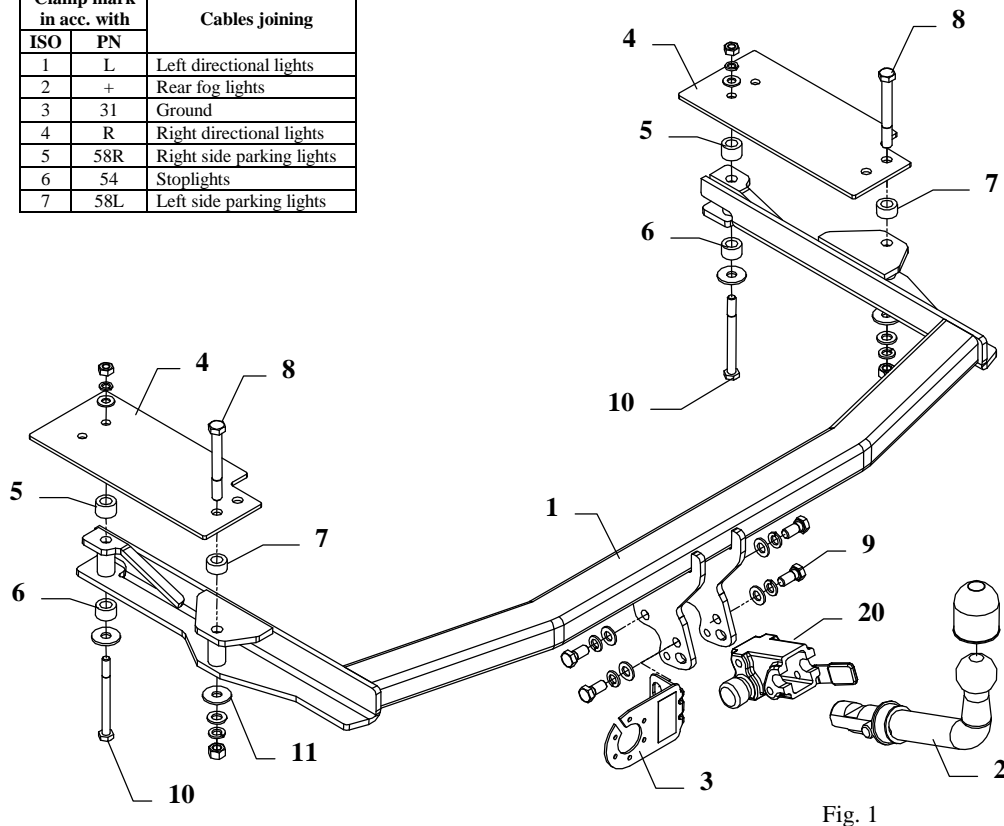
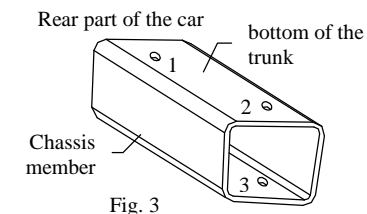

Fig. 1
Fig. 3
3. Factory made holes in members 1, 2, 3 boring with drill $\varnothing 25\text{mm}$ as shown on the fig. 3.
4. Put main bar of the towbar (pos. 1) in chassis members according to the holes in both elements.
5. In drilled holes $\varnothing 25\text{mm}$ put sleeves as shown on the fig. 1.
6. Place fish-plates (pos. 4) and screw it as shown at the fig. 1.